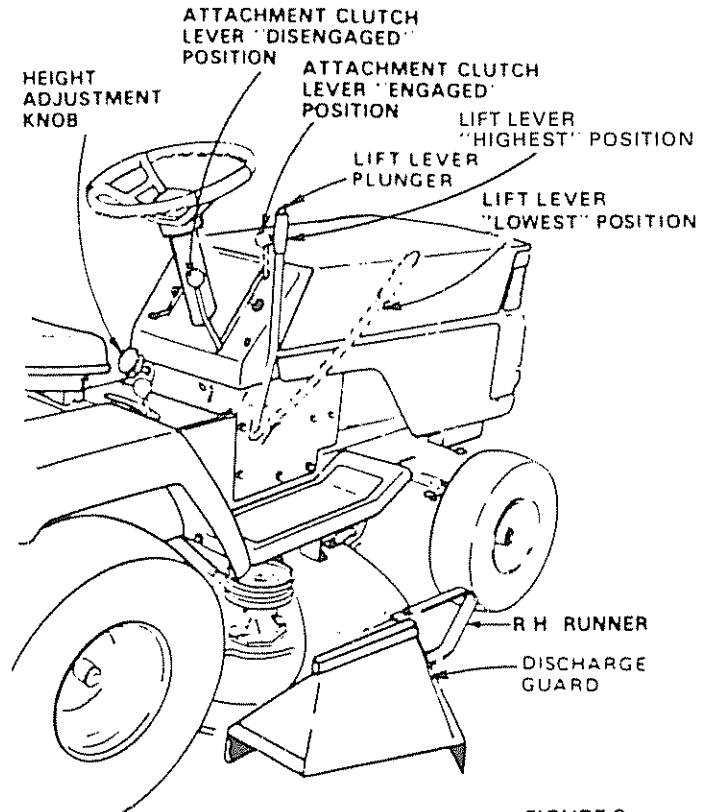

FIGURE 8
- a. Move the attachment lift lever to the high position and adjust height of cut to mid range. See Fig 8.
- f. Move throttle lever to half throttle and slowly move attachment clutch lever to engaged position. Fig. 8
- b. Use the runner on the R.H. side as a guide; the blade cuts approximately an inch outside the runner (Fig. 8).